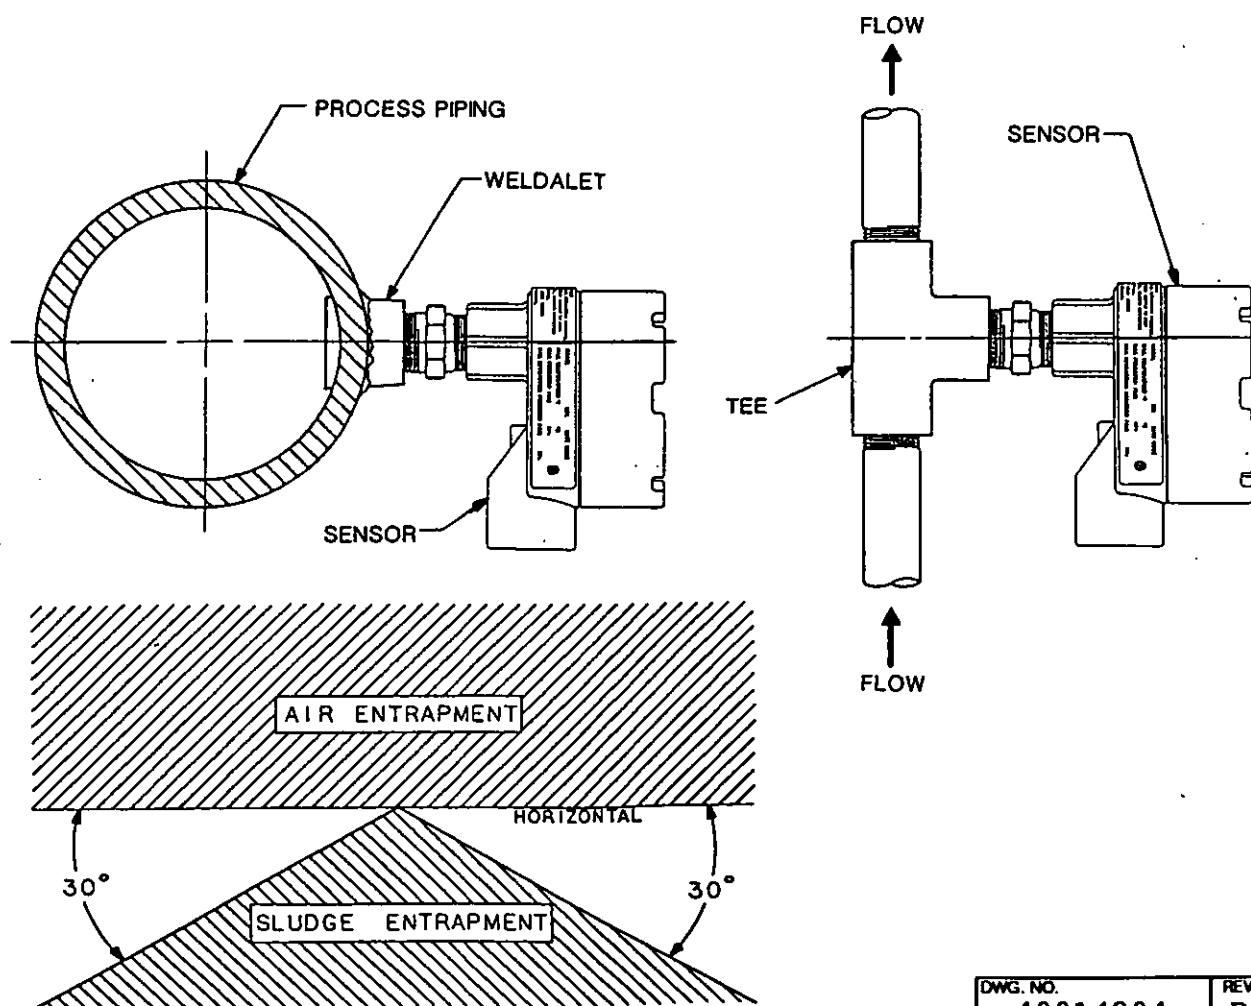

FIGURE 1-2. Model 141 Installation
3. Install the Model 141 Sensor into the 3/4 inch weldolet or pipe Tee (See Figure 1-2). Use TEFLON thread tape on the pipe threads.